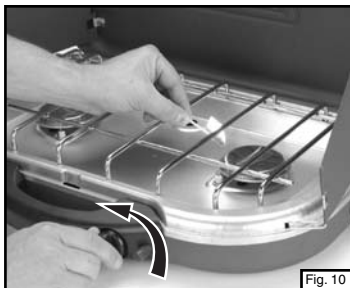
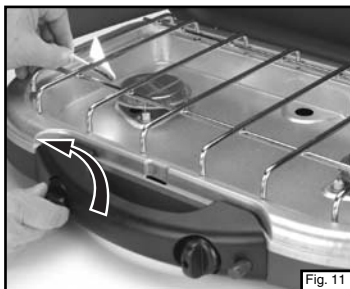

Fig. 10
Fig. 11
- Hold lighted match near burner and open burner valve. (Fig. 10 and Fig. 11)